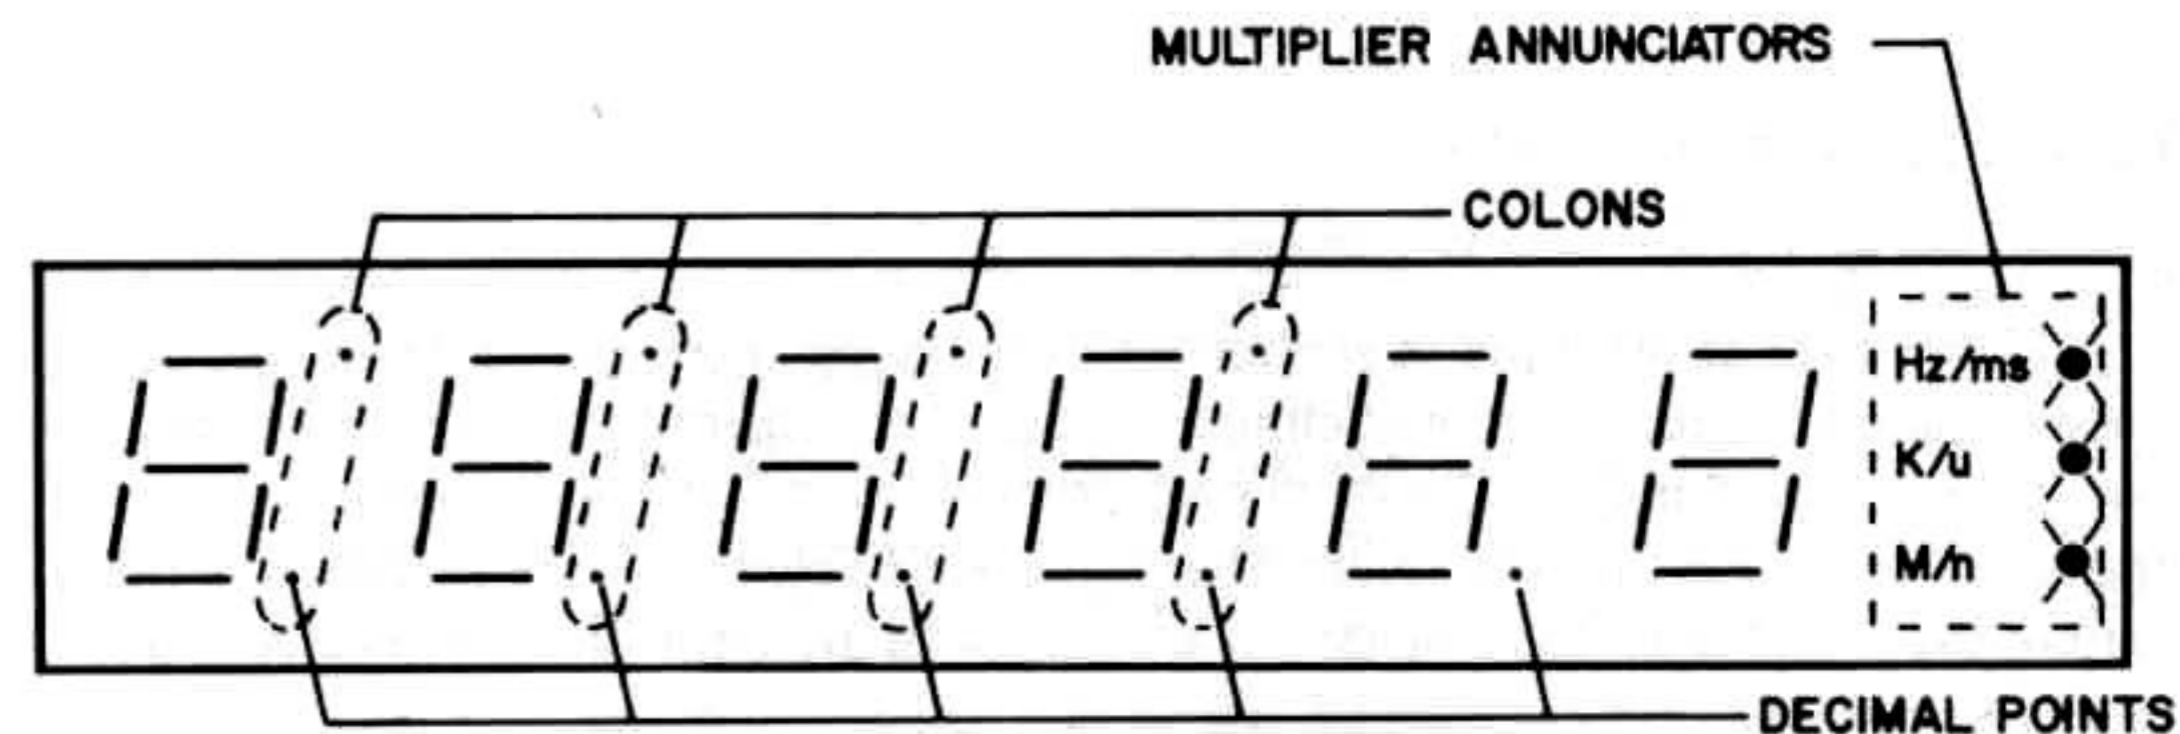

Fig. 12 Display Showing All Segments
- The first test is a thorough check of the display. The following steps are displayed, in order, for about 1.5 seconds each. Refer to Fig. 12.